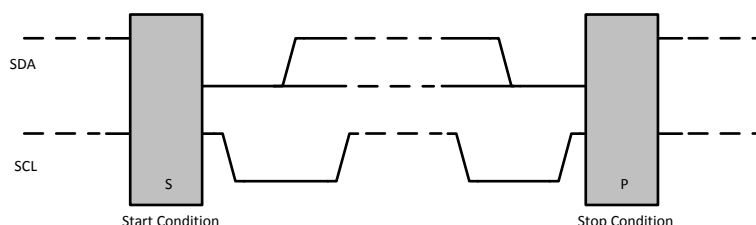

Figure 31. I²C Start and Stop Conditions
The LM36923 is configured via an I²C interface. START (S) and STOP (P) conditions classify the beginning and the end of the I²C session Figure 31. A START condition is defined as SDA transitioning from HIGH to LOW while SCL is HIGH. A STOP condition is defined as SDA transitioning from LOW to HIGH while SCL is HIGH. The I²C master always generates the START and STOP conditions. The I²C bus is considered busy after a START condition and free after a STOP condition. During the data transmission the I²C master can generate repeated START conditions. A START and a repeated START conditions are equivalent function-wise. The data on SDA must be stable during the HIGH period of the clock signal (SCL). In other words, the state of SDA can only be changed when SCL is LOW.